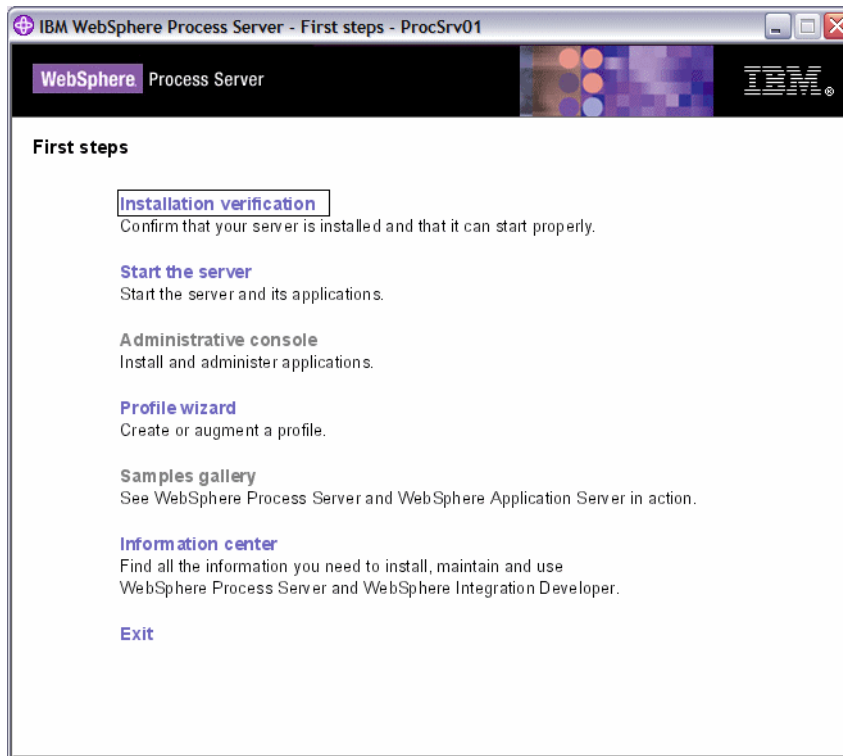

Figure A-25 WebSphere Process Server: First Steps
- ▶ In the First Steps panel, select *Installation verification* (Figure A-25). This starts the server and runs a number of tests to verify the installation of Process Server is functioning correctly.